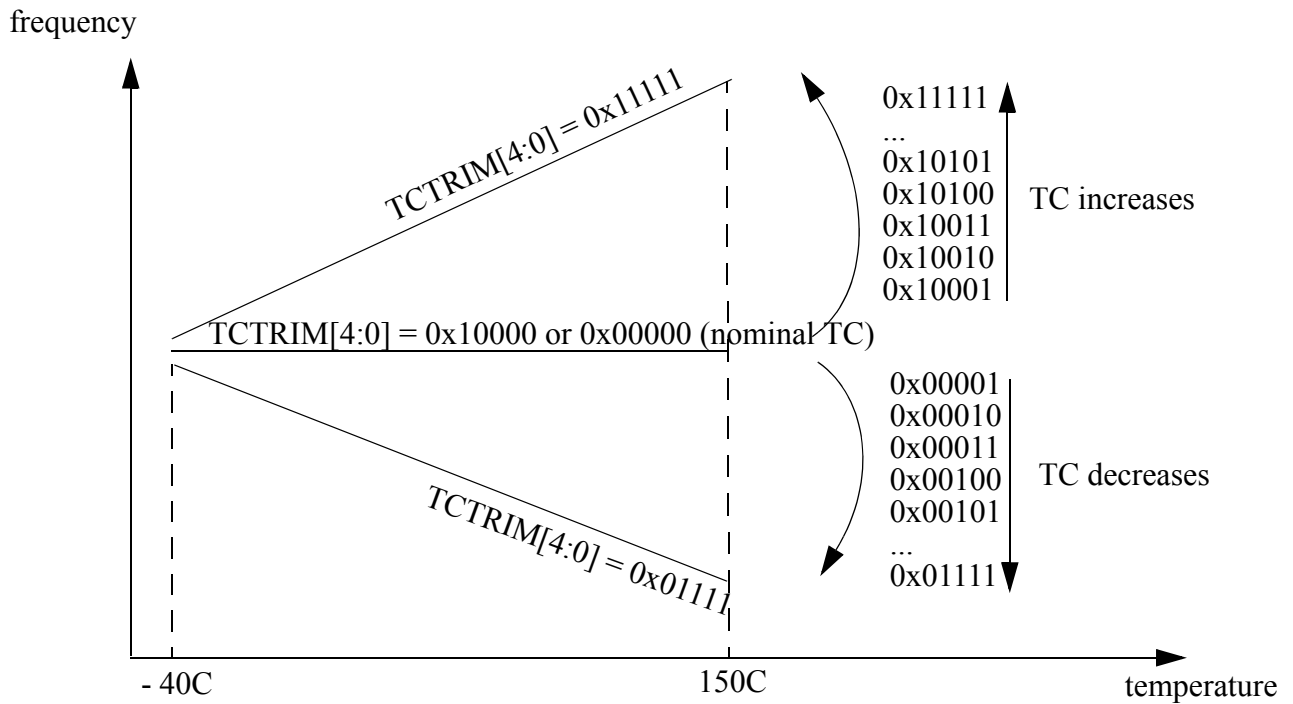

Figure 4-29. Influence of TCTRIM[4:0] on the Temperature Coefficient
15-11 TCTRIM[4:0]	IRC1M temperature coefficient Trim Bits Trim bits for the Temperature Coefficient (TC) of the IRC1M frequency. Table 4-27 shows the influence of the bits TCTRIM[4:0] on the relationship between frequency and temperature. Figure 4-29 shows an approximate TC variation, relative to the nominal TC of the IRC1M (i.e. for TCTRIM[4:0]=0x00000 or 0x10000).